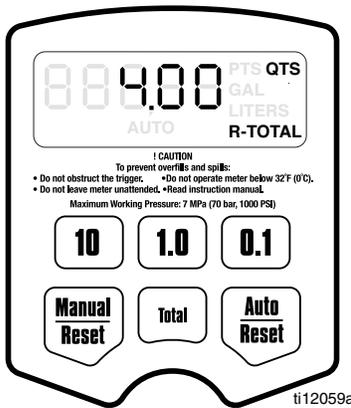

FIG. 30
2. Press and hold the Total button to view the resettable total amount (FIG. 30).